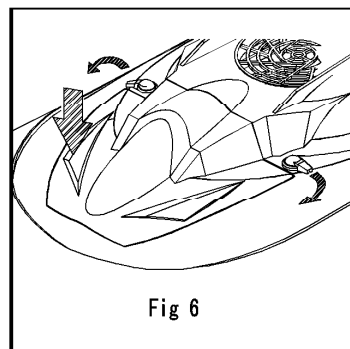

Fig 6
4. Replace BATTERY DOOR front first by aligning front edge of door and compartment, lowering rear of door into place and turning LATCHES to locked position (latches click onto little "bumps" in door). (Fig.6)